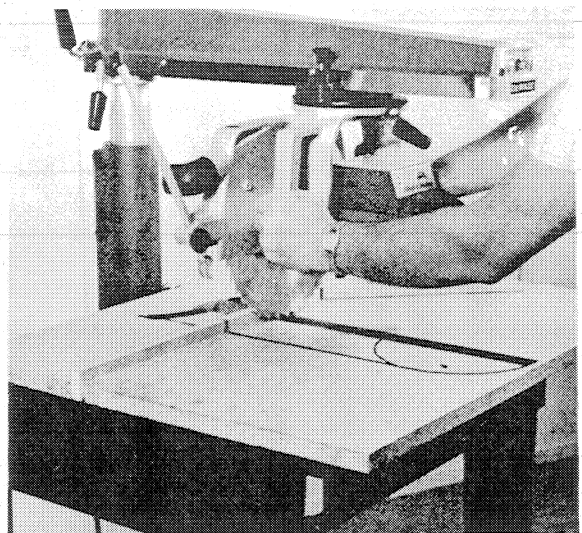

FIGURE 3
- (f) Once the 1/4 turn out is complete lock the yoke lock with your right hand and with the blade still revolving push the yoke back on the track until the blade reaches the fence. This will cut the rip trough in the center of the table. Stop Motor. (Refer to fig. 3)